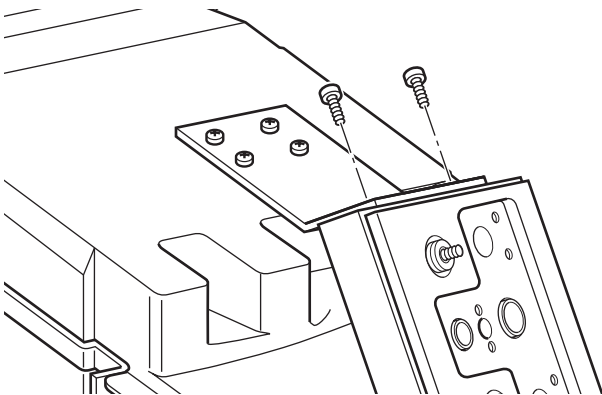

Figure 11-105: Passthrough Plate Support Removal
19. Remove screws securing passthrough plate support bracket to the main unit (Figure 11-105).